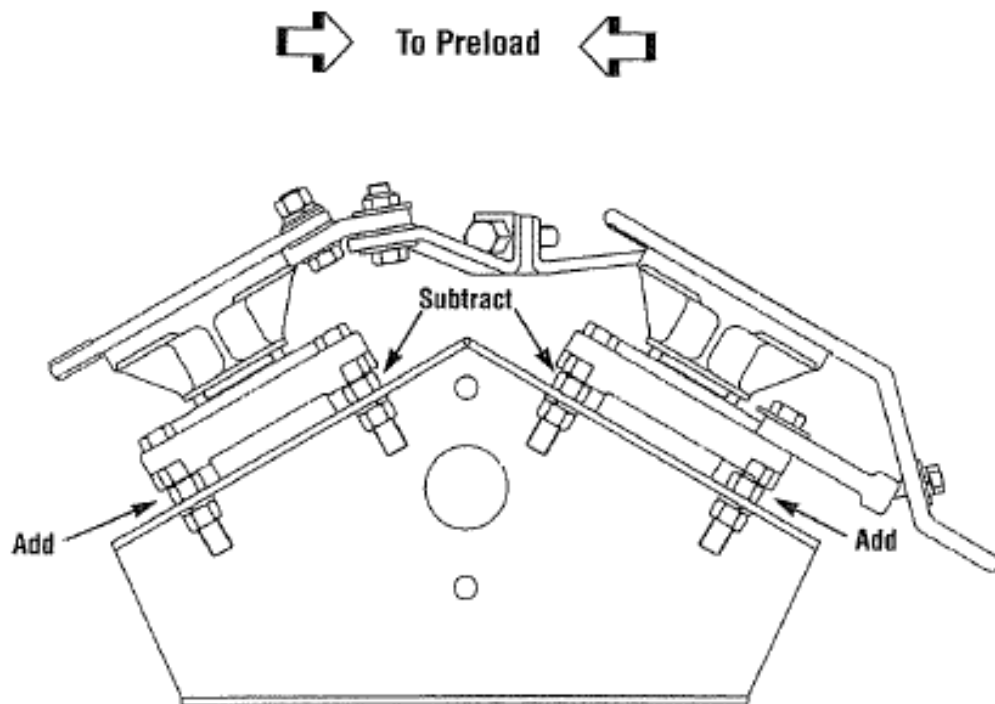

Figure 12: Preload Insulators
1. When the contact engagement is correctly set, preload the insulators toward the center of the gap. Add one flat on both outside jack screw nuts and subtract one flat on both inside nuts (**Figure 12**). This is done on both bearings.